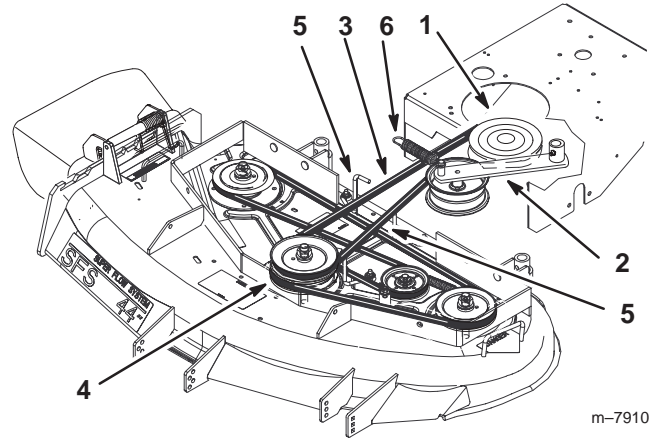

Figure 64
4. Remove the idler spring from idler arm. Remove the drive belt from the PTO engagement pulley and the center spindle pulley (Fig. 64).
5. Remove the worn drive belt (Fig. 64).
6. Install the new drive belt onto the PTO engagement pulley and the top groove of the center spindle pulley (Fig. 64).
7. Install belt onto idler pulley and then install idler spring (Fig. 64).
8. Adjust PTO drive belt guides an 1/8 inch (3 mm) from belt (Fig. 64).